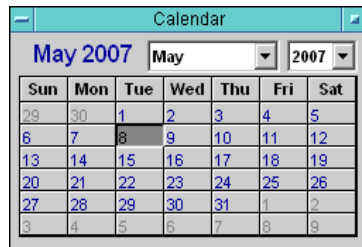

Figure 2-6 The Calendar
- 2 Release the selected Calendar; a calendar will appear; enlarge it so it becomes readable. See Figure 2-6.